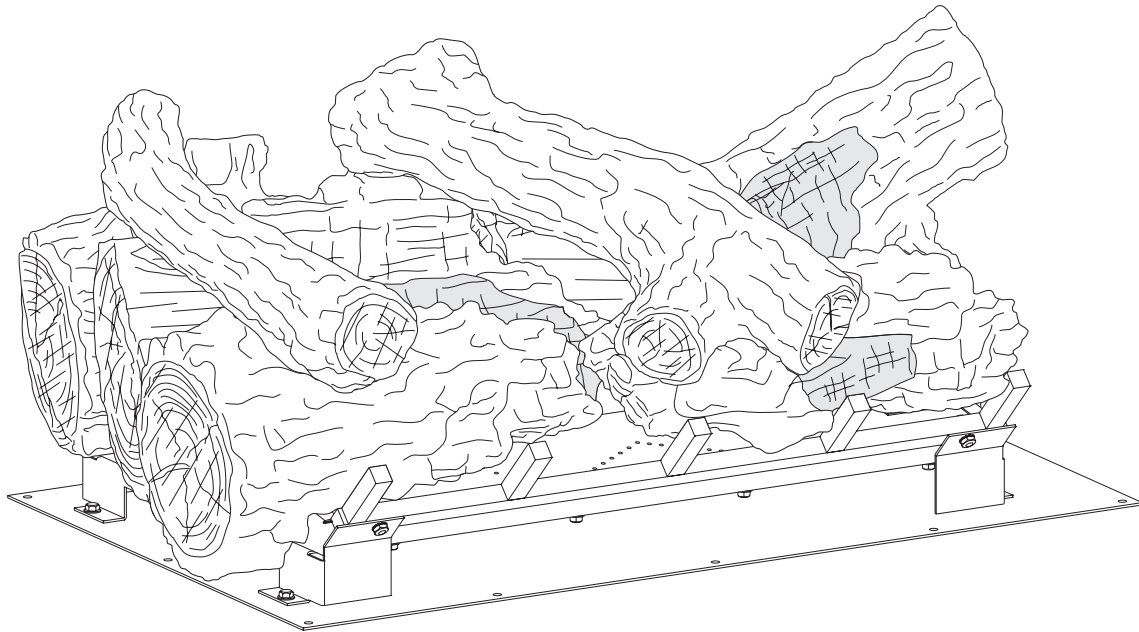

Figure 3
12. Compare the completed log installation with Figure 3. Review previous steps to make any necessary adjustments.